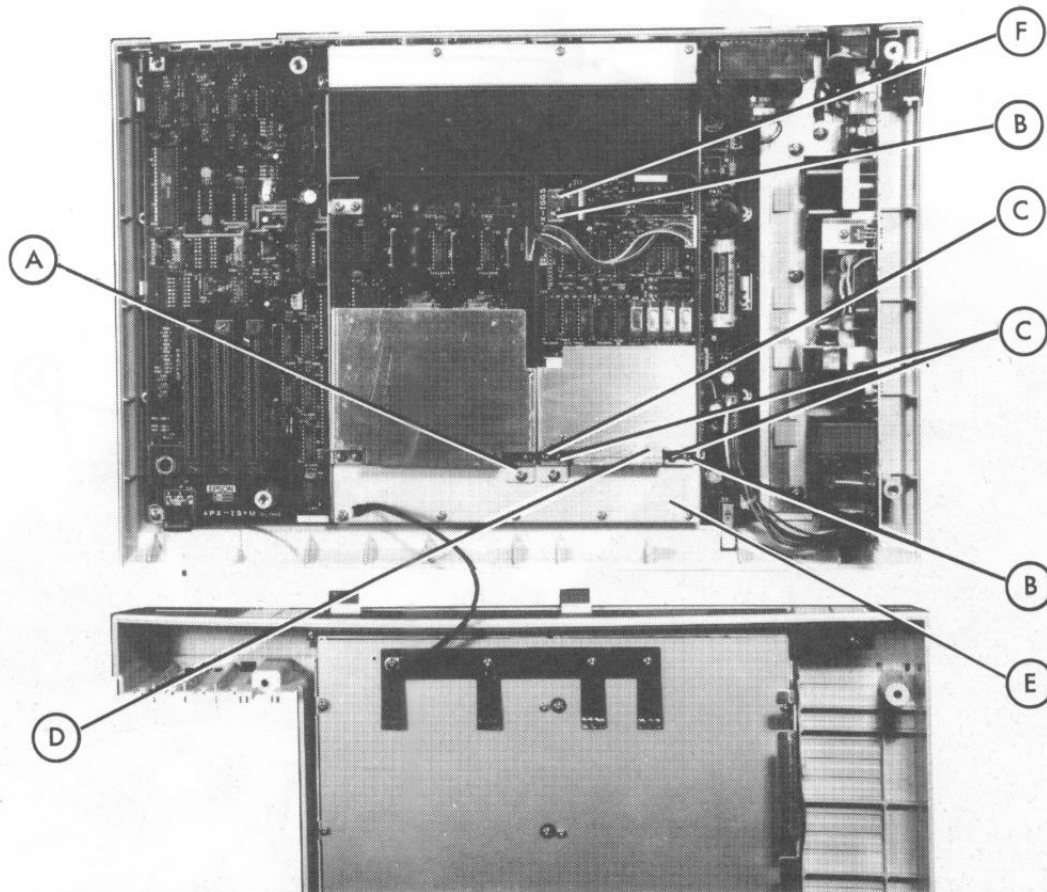

FIGURE 4-3. APX-IGGS VIDEO BOARD REMOVAL/REPLACEMENT
1. Install the power supply board in the lower case, positioning the rocker switch (D) and the AC receptacle (C).
2. Secure the board with four screws (B) and connect CN8 (A) to the APX-ISYM board.
4.2.5 APX-IGGS Video Board Removal (Figure 4-3)
4.2.6 APX-IGGS Video Board Replacement (Figure 4-3)